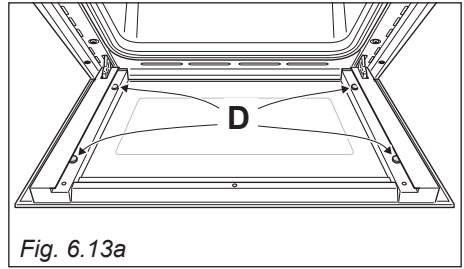

Fig. 6.13a
IMPORTANT: It is advisable, while removing the glass, to keep pressed in position the four rubber pads "D" (fig. 6.13a), by a finger, to avoid breakage or slippage of the rubber pads themselves.
- Check that the four rubber pads are in place (“D” in fig. 6.13a).